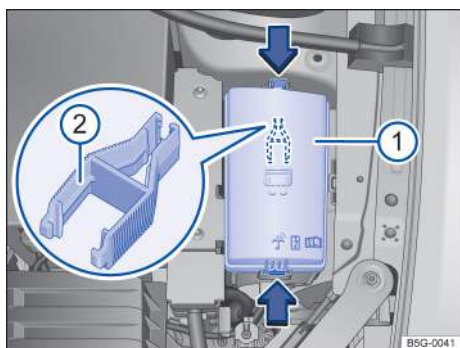

Fig. 157 In the engine compartment: Fuse box cover (1) with tweezers (2).
- *To remove*: Press the release tabs in the direction of the arrows → **fig. 157** to unlock the fuse box cover (1).
In some vehicles, there are plastic tweezers for removing fuses on the inside of the fuse box cover → **fig. 157** (2).